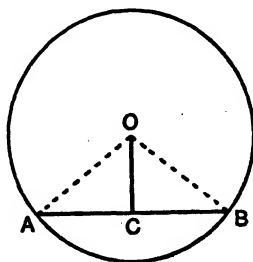

FIG. 36. OC AT RIGHT ANGLES TO CHORD AB
I. The children draw a circle and any chord in it. They join the centre of the circle to the mid-point of the chord and discover that OC is at right angles to AB, Fig. 36.